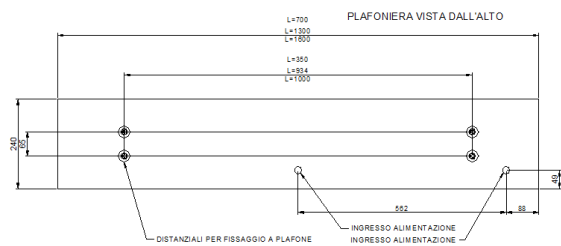

Fig. 6
1. Make 4 holes for a plug suitable for the ceiling according to the indications shown in Figure 6 according to the length of the ceiling light L 700mm, L 1300mm or L 1600mm (Figure 6)